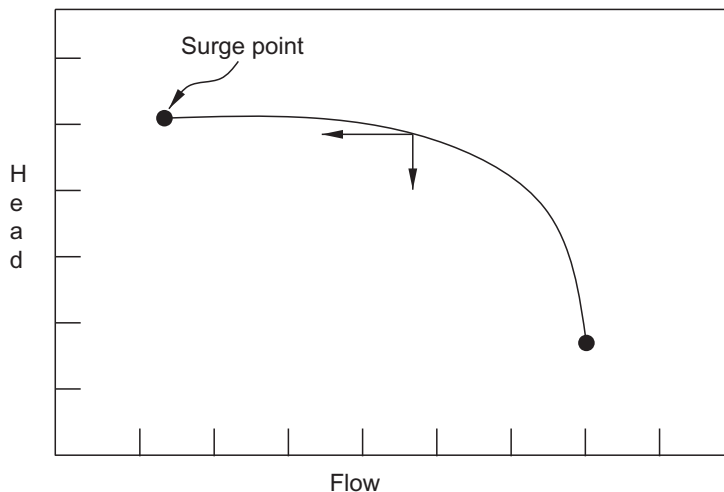
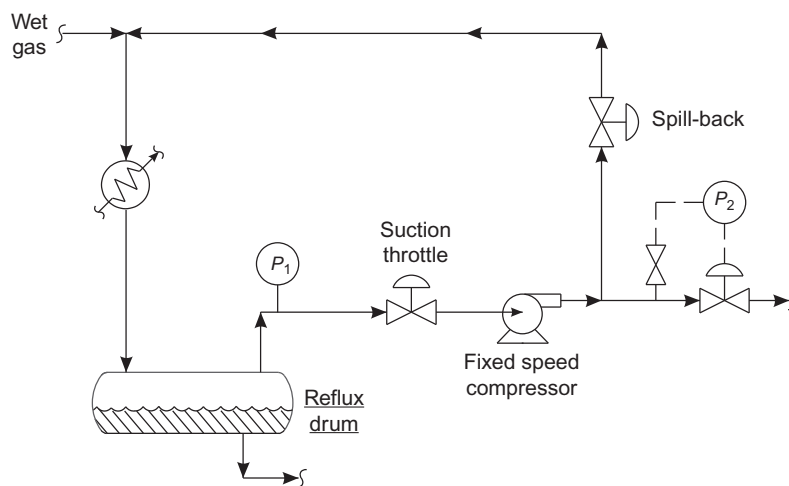

FIG. 31.2 A centrifugal pump performance curve.
FIG. 31.4 Spill-back vs suction throttle control of P_1 pressure.
Fig. 31.2 is a centrifugal compressor performance curve. Like a centrifugal pump, when we throttle at the discharge of the compressor, the flow is reduced and the feet of head (i.e., the discharge pressure) increases. If we throttle too much on the discharge of the compressor, we will reach the “surge” point.
Let's assume I have a fixed speed motor-driven centrifugal compressor as shown in Fig. 31.4. I must keep my pressure at P_1 constant, to keep the pressure constant in the reflux drum of the FCU fractionator. But as the molecular weight of the wet gas has increased from 30 to 33, gas density will also increase by 10%. Since the discharge pressure is constant and also the feet of head developed by the compressor is constant, and the flow of gas is constant, the suction pressure (P_1) is drawn down which I can't tolerate.
- #1—Open up the spill-back valve shown in Fig. 31.4. This will cause the compressor to produce less feet of head (Fig. 31.2). The suction pressure will increase. Which is what I want to happen?
Looking at Fig. 31.2—the horizontal axis is flow; the vertical axis is head. We normally design centrifugal compressors to operate on the flat portion of the curve, where flow is going to drop quickly and head will increase slowly, as we throttle the compressor discharge.
Throttling the compressor discharge causes the pressure at $P-1$ (Fig. 31.4) to increase, as the pressure drop across the discharge valve increases. But, to keep the pressure at $P-1$ at our set-point pressure, the spill-back valve, which is controlling the pressure at $P-1$ at a constant pressure, has to close.
To protect against destructive surge, we program the spill-back valve shown in Fig. 31.4 not to close too much; to maintain a total minimum flow to the compressor.